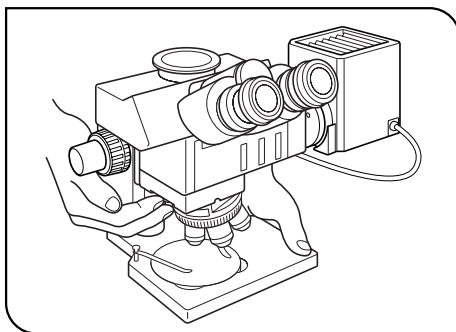

Fig. 2
3. When carrying the BXFM, hold the stand by the bottom with one hand as shown in Fig. 2, and hold the focusing block with the other hand.
4. The surface of the lamp housing ① on the rear of the microscope becomes very hot. When installing the microscope system, leave spaces of more than 10 cm around the lamp housing, particularly on the top and bottom.